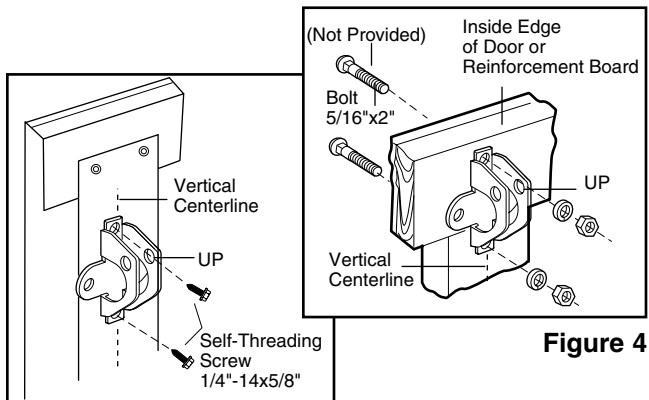

Figure 3
- Drill 3/16" fastening holes. Secure the door bracket using the self threading screws (Figure 3).